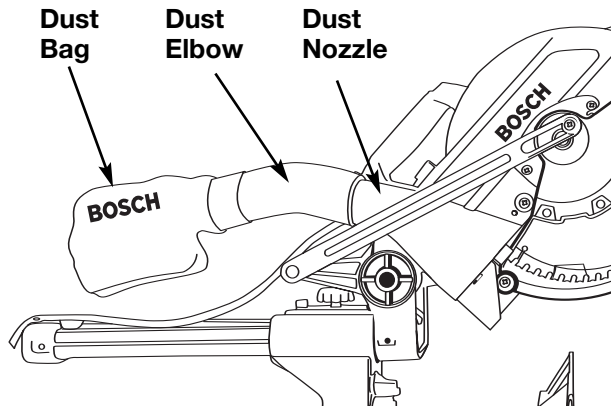

Figure 5. Dust Bag and Elbow
1. Push the dust elbow onto the dust nozzle. Rotate elbow to the desired position. (Figure 5).